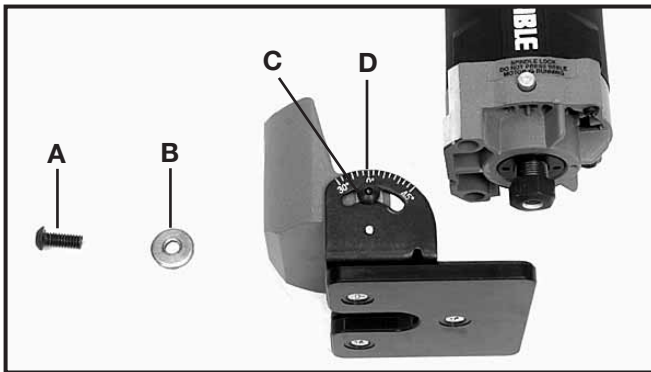

Fig. 6
Model 7319 Tilt Base Trimmer is completely assembled at the factory. The base is assembled or removed from Model 7301 motor with base locking screw (A) Fig. 6.
NOTE: There is a flat washer (B) Fig. 6, on the locking screw.
1. Loosen two tilt locking screws (C) Fig. 6, (one on each side of base) using wrench provided.
2. Tilt base aligning index mark (D) Fig. 6, with desired angle and tighten securely.